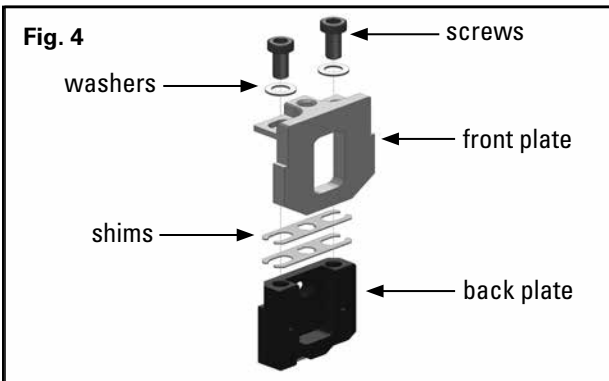

Fig. 4
4. Stack two shims on top of back plate of each mounting bracket. Using socket head screws and washers, attach front plate to the back plate ensuring that the shims are in place. Align the edges of the front and back plates so that the vertical edges are parallel. Tighten screws to compress shims ensuring no interference with the pole end. (**Fig. 4**).